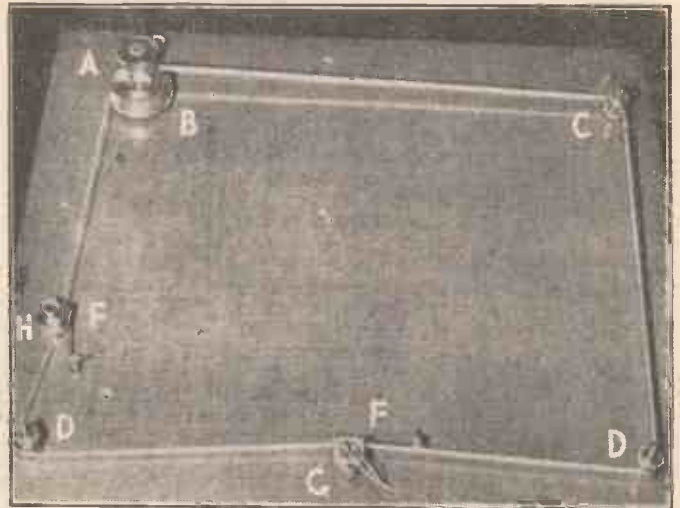

Fig. 1.—General view of the completed recorder.
The simple mechanism shown in Fig. 1 will record short phrases, such as "Sorry, no cigarettes," "Keep moving, please," "Queue along here," and so on; these phrases, once recorded, could be reproduced every few seconds for days, weeks or years, until the wire or tape itself had worn away. On the other hand, any recording made can be immediately removed from the wire or tape by feeding into the head an alternating current, or by setting a small magnet alongside the loop so that, as the recording medium passes by the head, or magnet, the magnetic flux erases any previous recording, thus preparing the loop for recording again. Such a device would be a boon to a person learning public speaking or plays; one could speak a line and hear it played back immediately, thus learning the quality or otherwise of the diction. A few inches along the tape or wire from the recording head G would be placed the playback head H. The erasing head or magnet would then be placed anywhere along the line between HBCDG.
Look again at Fig. 1. You will see a
Fig. 1 (F) shows the recording head, and H in the same figure the playback head; the latter can be placed in any position, either close to or away from the recording head. If you wish to record longer phrases it is suggested that you fit more pulleys, so that the wire or tape can zig-zag up and down the board, instead of just moving around the edge. Once you have the principle mastered, you can even fit up a recorder with spools of tape or wire.